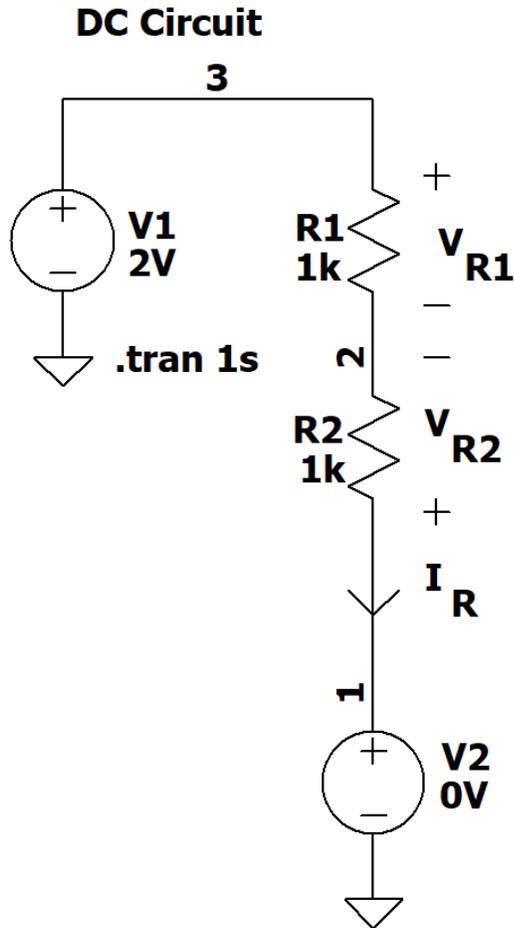

Figure 5. A more complex circuit
11. Draw the circuit of Figure 5 in LTspice®. Save using a new file name.
Table 1. Analysis and simulation results for the circuit of Figure 5.